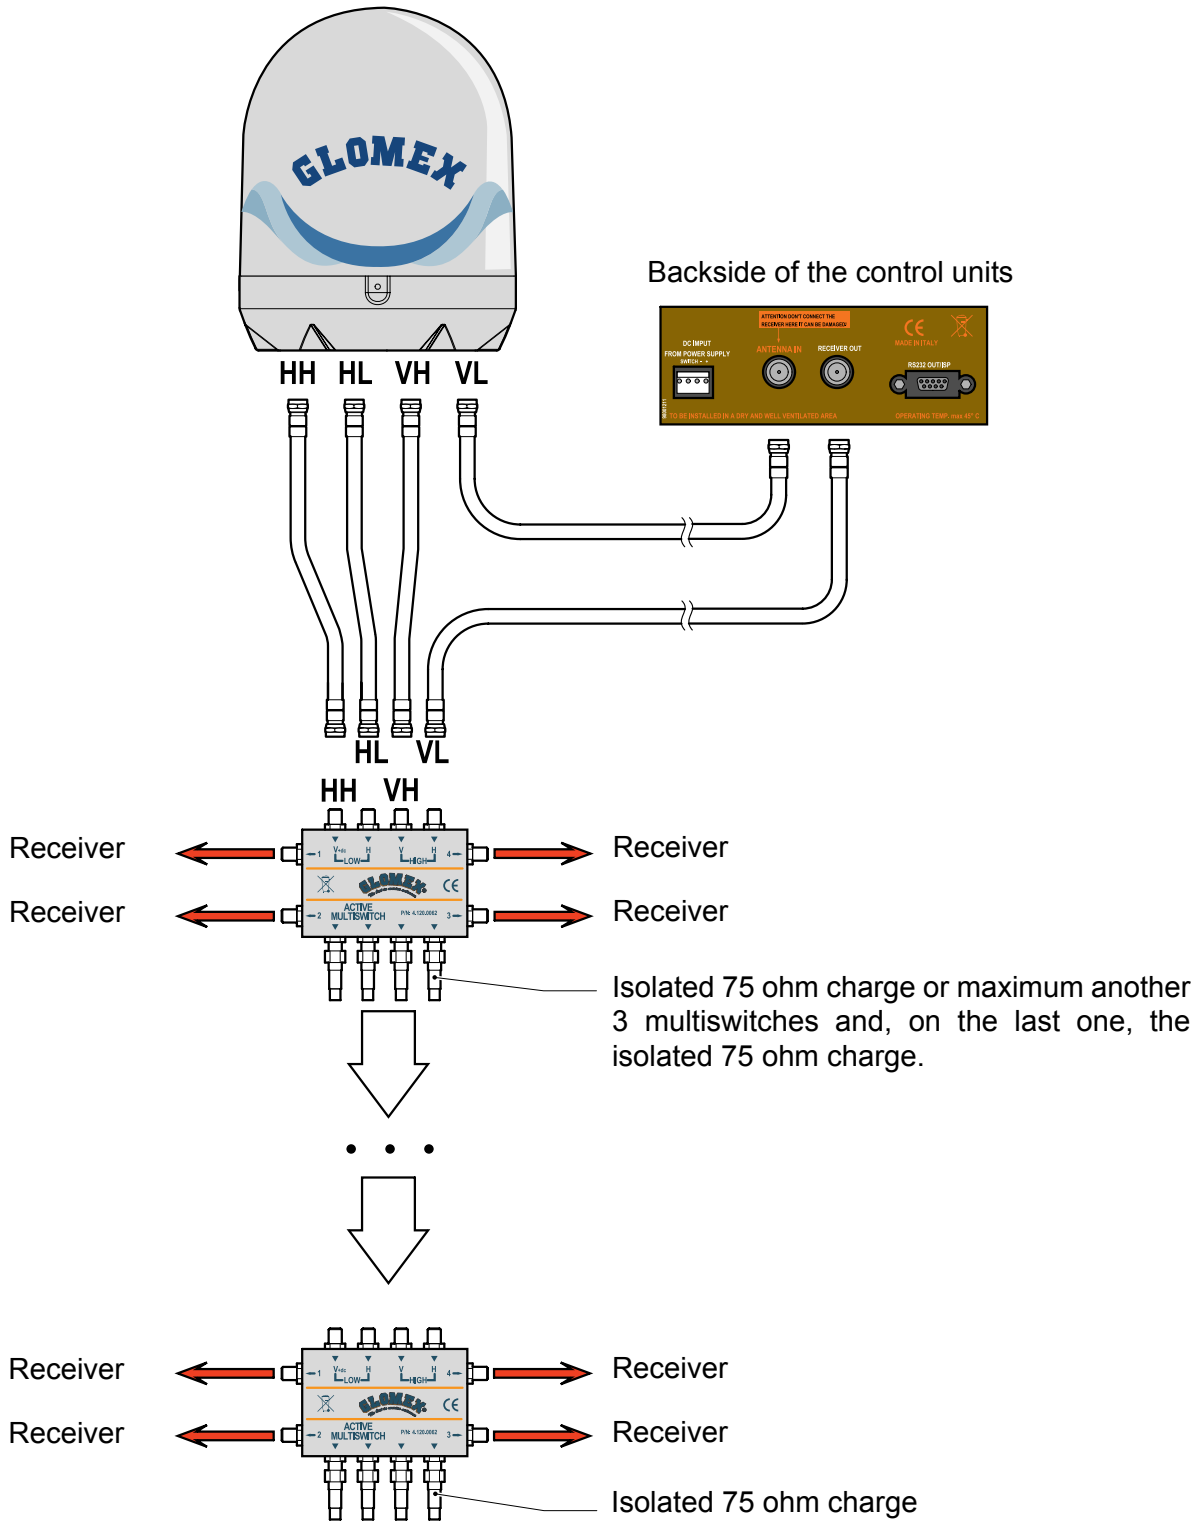

Fig. 20
6. For model R9804 connect the cables by following the indications given in Fig. 20.